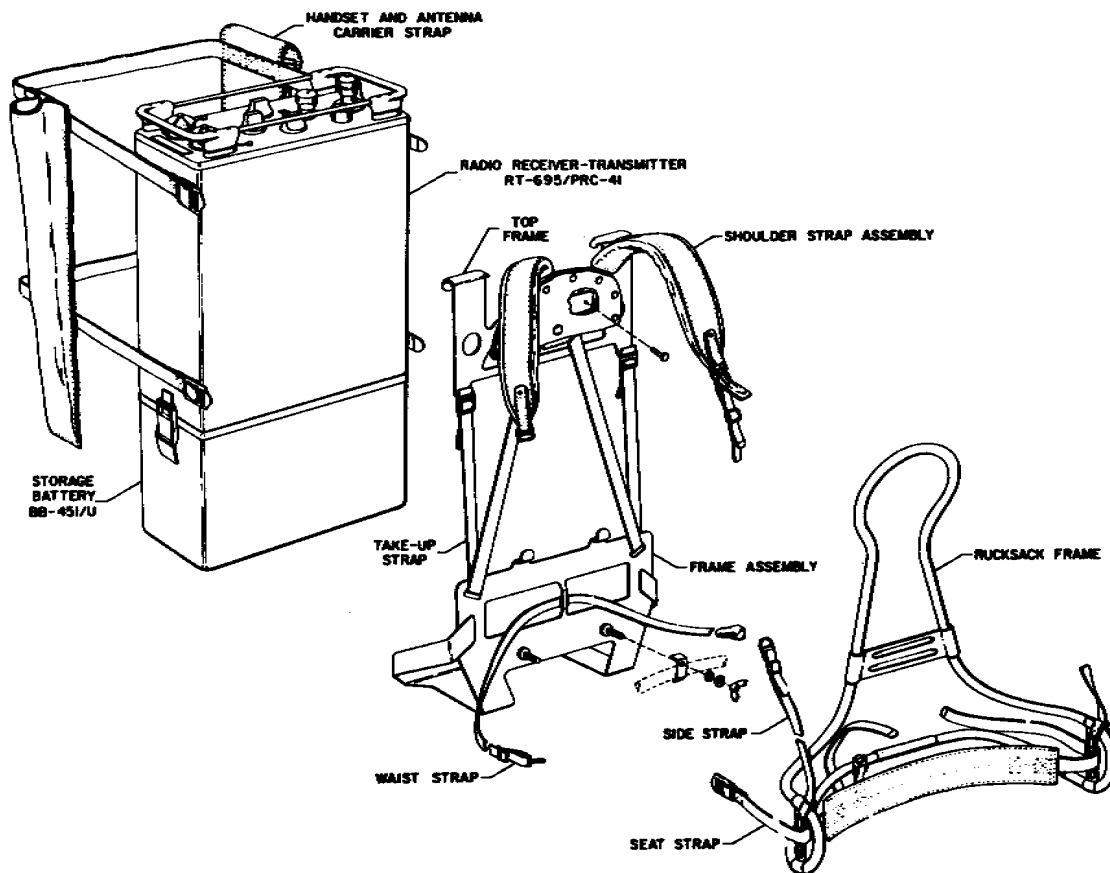

Figure 2-5. Assembly of Strappings of Rucksack Frame for Man-Pack Operation
ERATION. - Refer to figure 2-5. The strapping and harnessing required for man-pack operation are contained in Radio Set Case CY-3883/PRC-41. Assemble the straps and harness to the frame, and Radio Receiver Transmitter RT-695/PRC-41 and Storage Battery BB-451/U on the rucksack frame according to the following steps of procedure.
(2) STORAGE BATTERY BB-451/U EXCHANGE. - Under a normal 1-minute transmit, 9- receive duty cycle, Storage Battery BB-451/U provides approximately 8 to 10 hours of operation. To replace a discharged Storage Battery BB-451/U by a fully charged one with the equipment stowed on the rucksack frame, perform the following steps of procedure. Refer to figure 2-5.